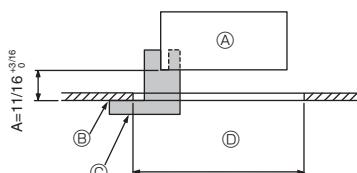

Fig. 9-2
① Grille	1	950 × 950 (mm), 37-3/8 × 37-3/8 (inch)
② Installation gauge	1	(Divided into 4 parts)
③ Screw (4 × 16)	1	For PLA-A-EA*
④ i-see Sensor corner panel	1	For PLA-A-EA*
9.2. Preparing to attach the grille (Fig. 9-2)
- With the gauge ② supplied with this kit, adjust and check the positioning of the main unit relative to the ceiling surface. If the main unit is not properly positioned relative to the ceiling surface, it may allow air leaks or cause condensation to collect.